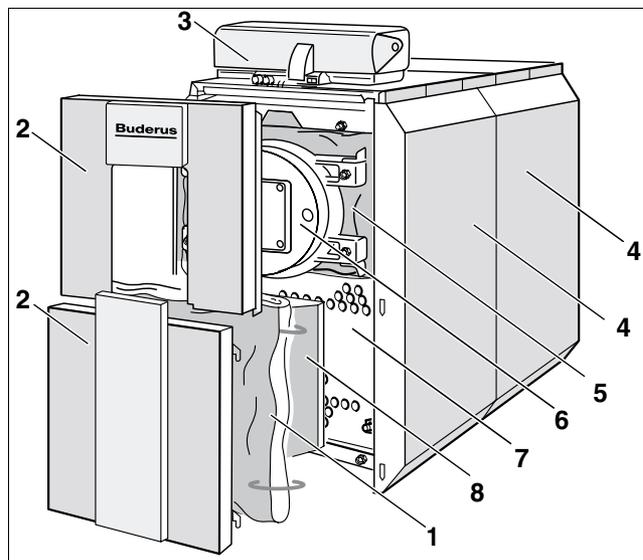

Fig. 1 SB615, condensing gas-fired boiler
The following are components of the SB615, condensing gas-fired boiler (Fig. 1):
- Boiler block (Fig. 1, **Item 7**) incl. thermal insulation (Fig. 1, **Item 1** and **5**) and burner door (Fig. 1, **Item 6**).
- Boiler jacket (Fig. 1, **Item 4**), thermal insulation (Fig. 1, **Item 1** and **5**) and boiler front walls (Fig. 1, **Item 2**).
- Control device (Fig. 1, **Item 3**) (Optional).